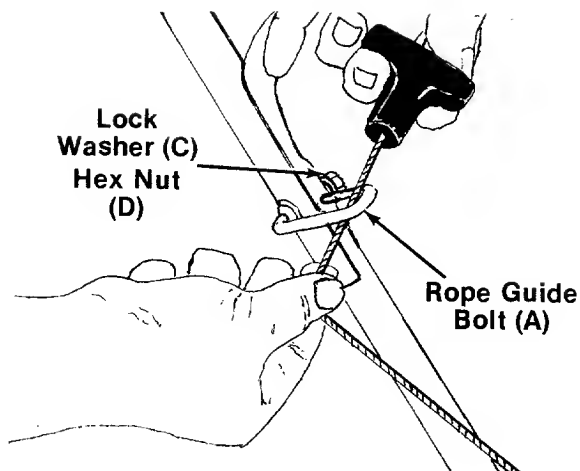

FIGURE 4.
- ← 5. Insert the rope guide bolt (A) through the right hand side of upper and lower handle.
7. Slip the starter rope into the rope guide bolt as shown in figure 4. Secure the rope guide bolt with lock washer (C) and hex nut (D). If more slack is needed in the starter rope, disconnect and ground the spark plug wire. Depress the blade control handle and pull additional rope out from the engine.